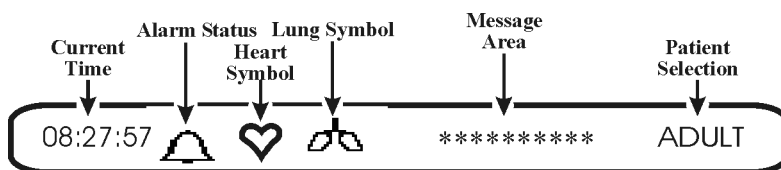

Figure 1-7. The Informational Display
- a. **Informational Display.** (See Figure 1-7) The Informational Display is located at the top of the Normal Display. This display provides the operator with the current time, the Alarm Status Bell Symbol, a flashing Heart Rate Symbol, a flashing Lung Symbol, any current user messages and the current Patient Selection.